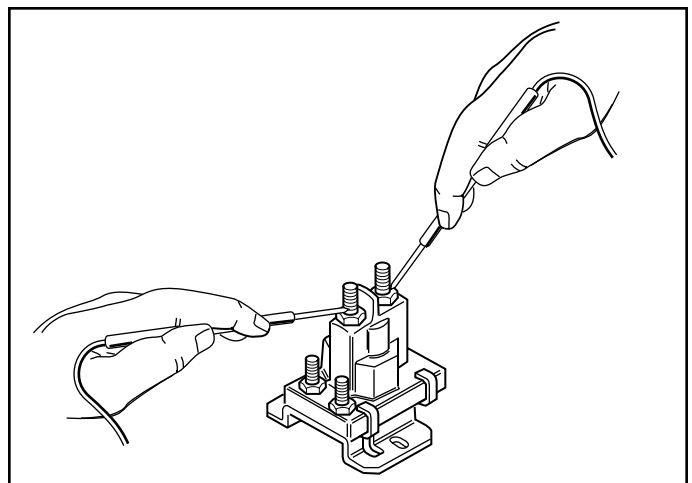

**Figure 16. Solenoid Location**
1. Disconnect the Green/Black & Black/Yellow plug (A, Figure 16) and Blue/White plug (B, Figure 16) from the small posts of the solenoid.